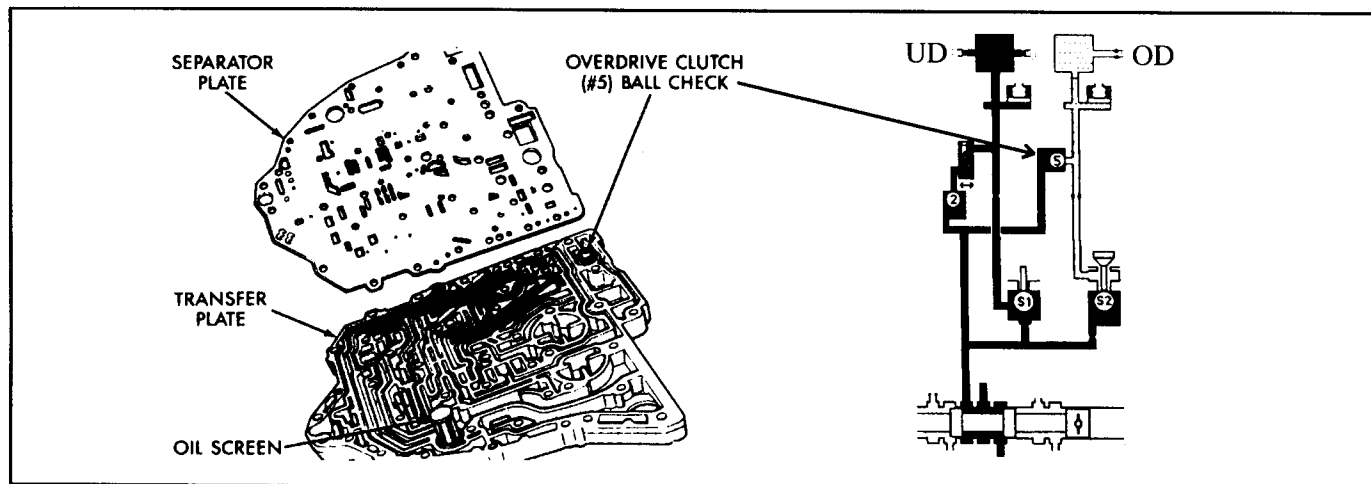

Figure 64
• A low clutch volume reading in just the OD clutch circuit has been commonly caused by a defective O ring on the # 5 check ball capsule in the transfer plate as shown in Figure 64. This blocks controlled line pressure from entering the OD clutch circuit. If the O ring or the capsule itself fails to hold back this pressure, the low OD clutch volume reading will vary depending upon the severity of the leak. If the leak is slight, most of the oil will exhaust past the OD solenoid and the OD clutch volume may appear to be normal. As the leak gets worse, the OD solenoid is flooded and the OD circuit becomes charged with oil causing below minimum CVI. *Note: The # 5 check ball capsule has been eliminated in late model 41TE's and all 42LE's.*